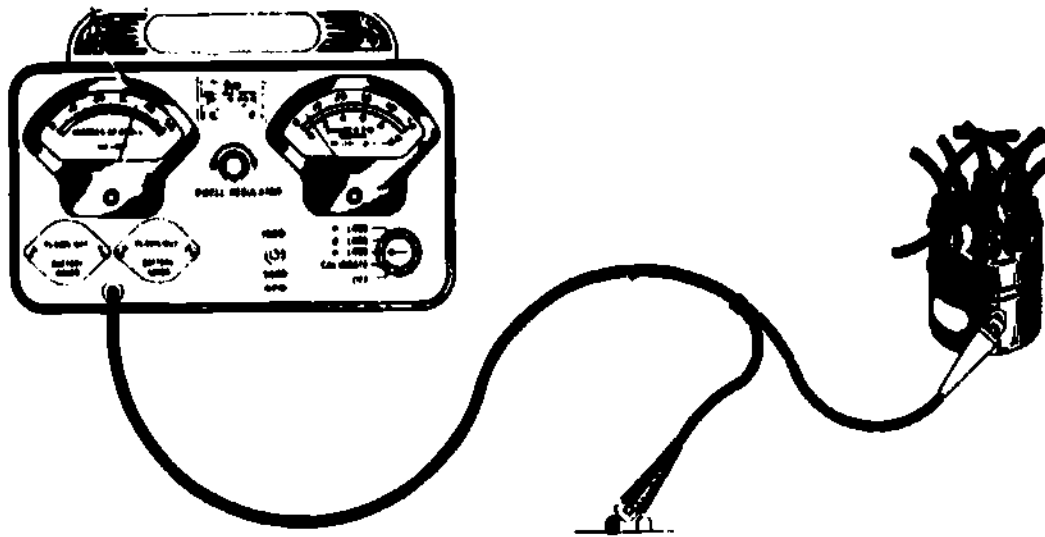

Fig 1-28. Connections for testing dwell angle.
- Step 1. Calibrate the tester and turn the selector switch to the correct lobe position. Connect the test leads (fig 1-28) and start the engine.